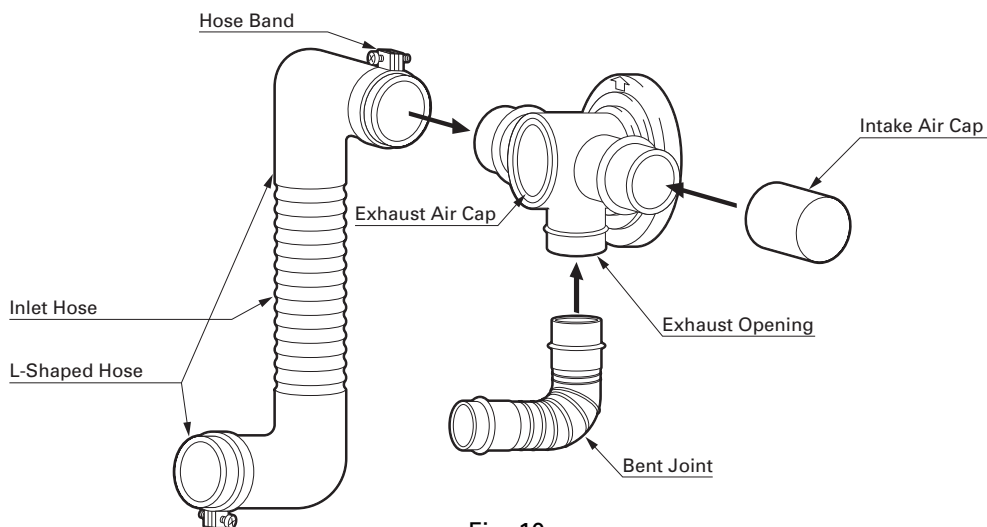

Fig. 10
7. Insert the bent joint to the exhaust opening of the flue pipe. Cut the inlet hose for desired length if necessary. Attach the L-shaped hose to each end of the inlet hose and attach the L-shaped hose to the intake opening of the flue pipe. Secure the L-shaped hose to the intake opening with the hose band. Plug the unused exhaust and intake opening with the caps provided with the heater. Make sure the caps fit tightly onto the opening (See Fig. 10).